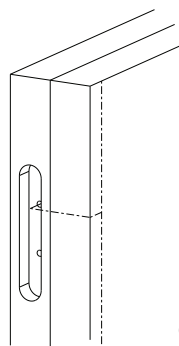

Fig. 5
2. Using the square transfer the centerline of the return to the face of the installed gallery panel. (**Fig. 5**)